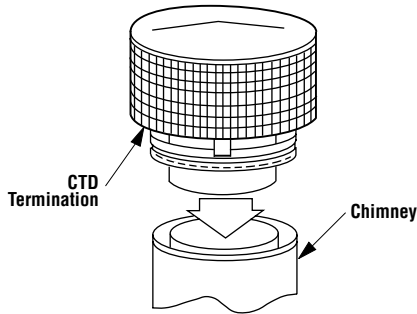

Figure 34
1. Hold the FTF10-CTD over top of last chimney section (Figure 34).